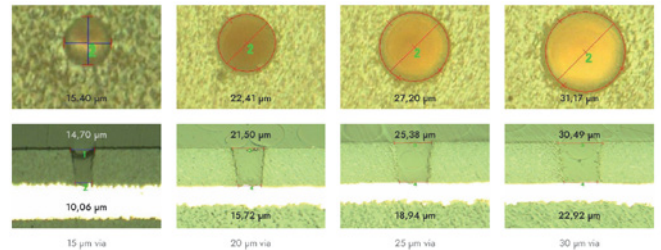

Figure 8: Good quality ultra-small blind vias drilled by ultra-short pulse lasers.
**For ultra-small vias (<75 microns):** CO2 becomes physically limited at these sizes. One must switch to UV-nano, pico-green, or pico-UV. These sources offer the precision needed for microvias but require careful energy management and process fine-tuning (Figure 8):